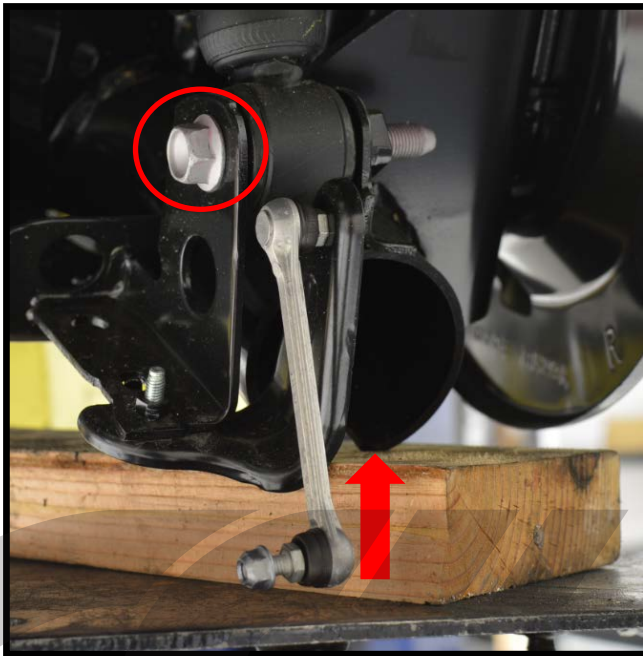

Figure 5c
- d) Remove the 17mm bolt from the control arm. Red circle in Figure 5c.